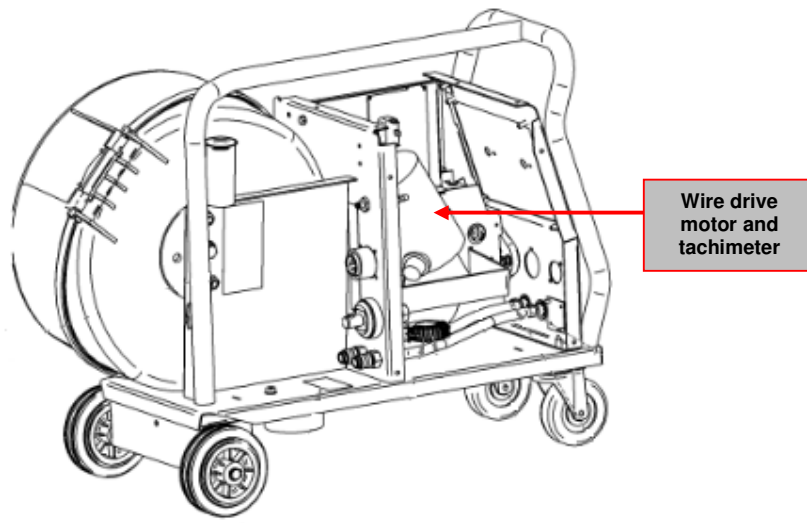

Figure 4 – Wire drive motor and tachimeter location
3. Located the wire drive motor. See **Figure 4**.